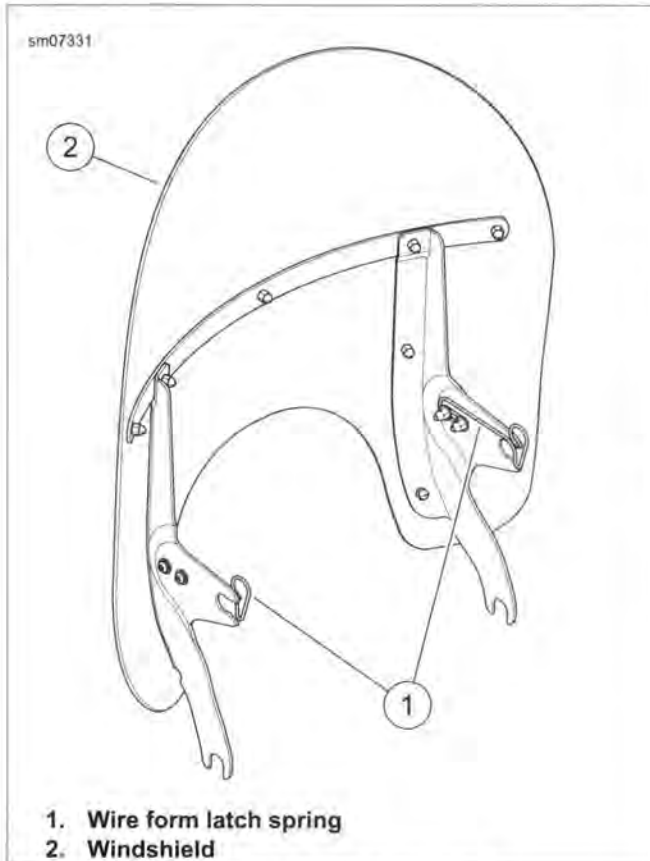

Figure 2-153. Windshield (FLD)
1. See Figure 2-153. Raise the wireform latch springs (1) on both sides of the windshield (2).
2. See Figure 2-153. Gently push the top of the windshield toward the rear until the upper notches fully engage the upper grommets (2).
3. Push down on the wireform latch springs (1), so that they overhang the rubber grommets. If some adjustment is necessary, loosen the retaining screws and rotate the latch springs into the proper position.